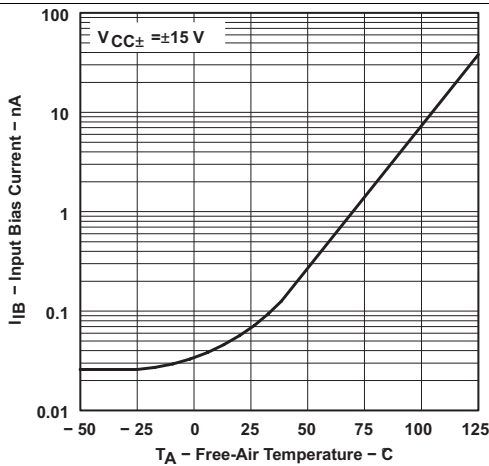

Figure 13. Input Bias Current vs Free-Air Temperature
- (1) All characteristics are measured under open-loop conditions with zero common-mode voltage, unless otherwise specified. Full range for T_A is 0°C to 70°C for TL08_C, TL08_AC, TL08_BC and –40°C to 85°C for TL08_I.
- (2) Input bias currents of an FET-input operational amplifier are normal junction reverse currents, which are temperature sensitive, as shown in Figure 13. Pulse techniques must be used that maintain the junction temperature as close to the ambient temperature as possible.
(1) All characteristics are measured under open-loop conditions, with zero common-mode input voltage, unless otherwise specified.
(2) Input bias currents of a FET-input operational amplifier are normal junction reverse currents, which are temperature sensitive, as shown in Figure 13. Pulse techniques must be used that maintain the junction temperatures as close to the ambient temperature as possible.